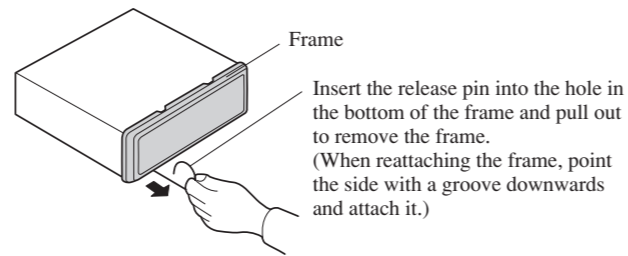

Fig. 10
**1. Remove the frame. (Fig. 10)**